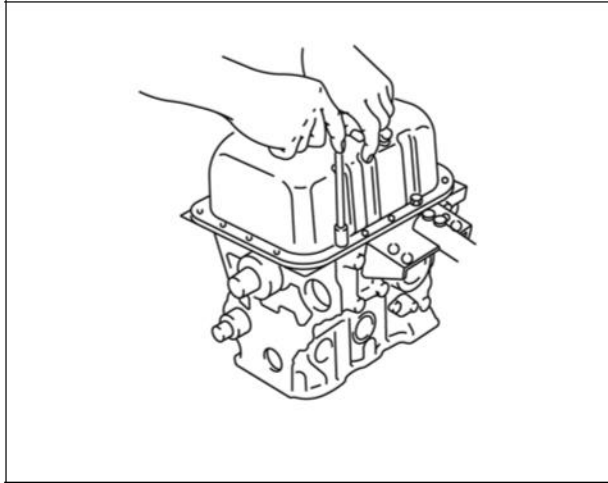

Figure 1
2. Remove oil pan screws and nuts (Figure 1).